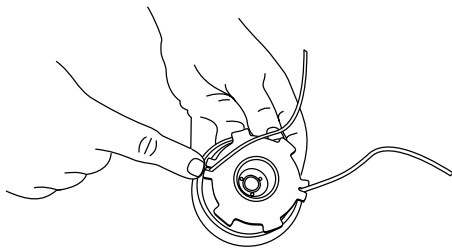

Fig. 18
8. Insert the ends of the line into the two holding slots (Fig. 18).